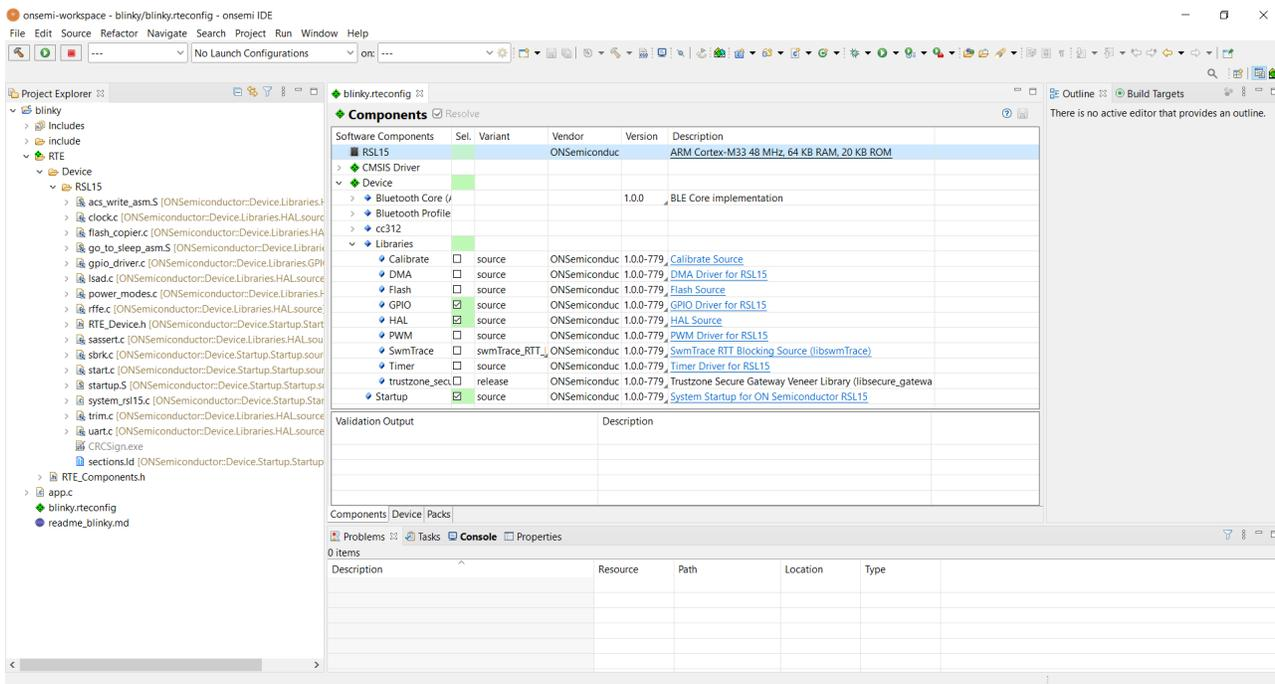

Figure 8. RTE Configuration for the Blinky Example Project in the onsemi IDE
3. The C/C++ perspective opens and displays your newly copied project. In the **Project Explorer** panel, you can expand your project folder and explore the files inside your project. Double-click on the file names to open them. In the Components view, the *blinky.rteconfig* file displays software components. If you expand **Device** > **Libraries** in the Components view, you can see the **HAL** library and the **Startup** components selected for *blinky*. (See the "RTE Configuration for the Blinky Example Project in the onsemi IDE" figure (Figure 8).)